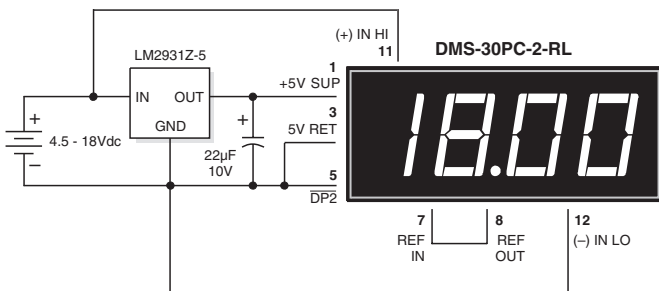

Figure 8. 4.5-18V Power Supply Monitor
6. Power Supply Monitoring: One of the most common digital panel meter applications involves monitoring the output voltage of the system power supply — often this supply also powers the meter itself. The low-power, red LED DMS-30PC-2-RL can be configured to allow power supply monitoring over the range of 4.5-18Vdc. The circuit in Figure 8 uses a low-drop-out, three-terminal regulator (LM-2931Z-5, available from National Semiconductor) to provide regulated 5V power to the meter. The LM-2931 was chosen because it has the following on-chip protection features: reverse polarity, short circuit and thermal run-away.